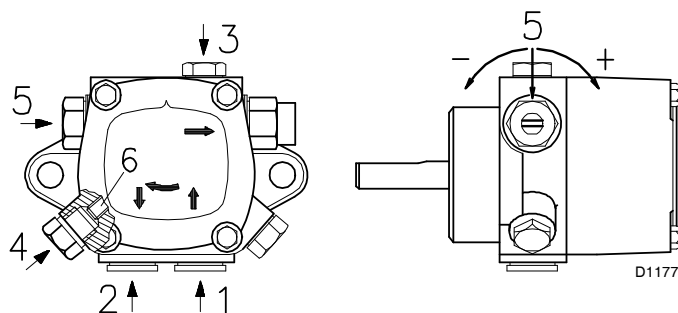
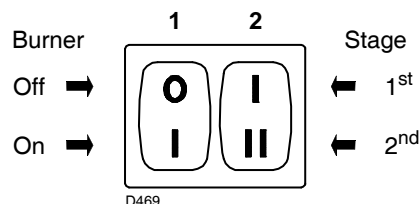

Fig. 21
Fig. 22
For the priming pump loosen the screw 3)(Fig. 21) in order to bleed off the air contained in the suction line and wait until the fuel flows out.
- For self-priming to take place, one of the screws 3 (Fig. 21) of the pump, must be loosened in order to bleed off the air contained in the suction line.
- Start the burner by closing the control devices, with switch 1 (Fig. 22) in the "ON" position and with switch 30 (Fig. 5 at page 13) in the "OIL" position.
- The pump can be considered to be primed when the gas oil starts coming out of the screw 3 (Fig. 21). Stop the burner: switch 1 (Fig. 22) set to "OFF" and tighten the screw 3).